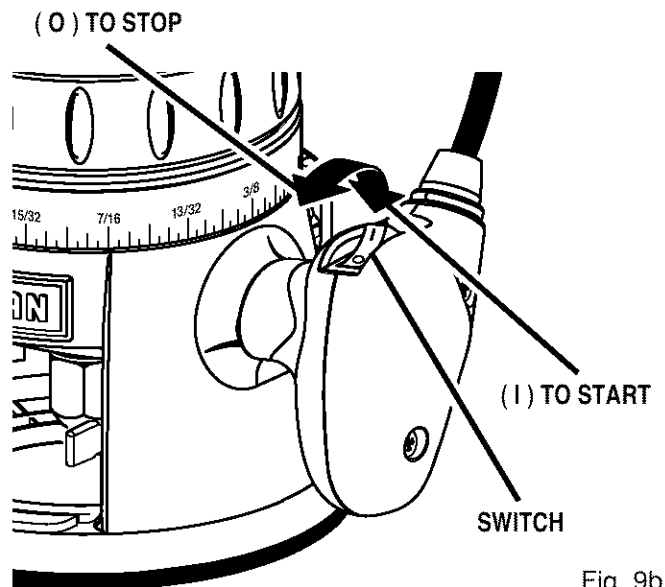

Fig. 9b
- *To start router:* Toggle the switch to the **I** position. *See Figure 9b.*
- *To stop router:* Toggle the switch to the **O** position. *See Figure 9b.*